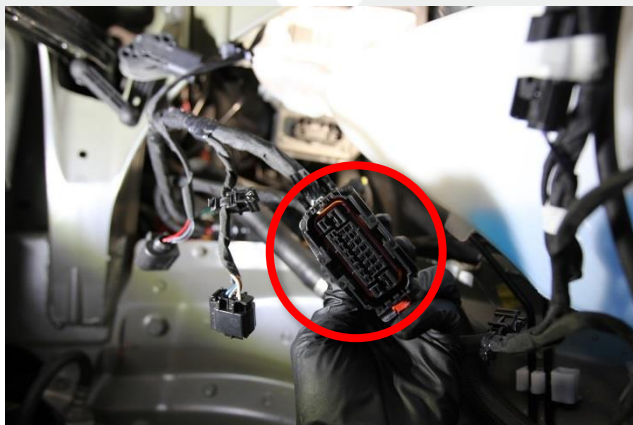

Figure 12 – LHD only
11. **LHD only:** Move connector X117 into the LH wheelwell area for inspection later in this document (Figure 12).